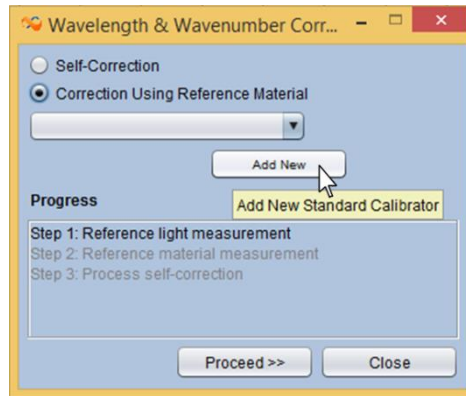

Figure 6.14: Creating of data for a new reference material
3. Click on the “**Add New**” button. (see Figure 6.14)